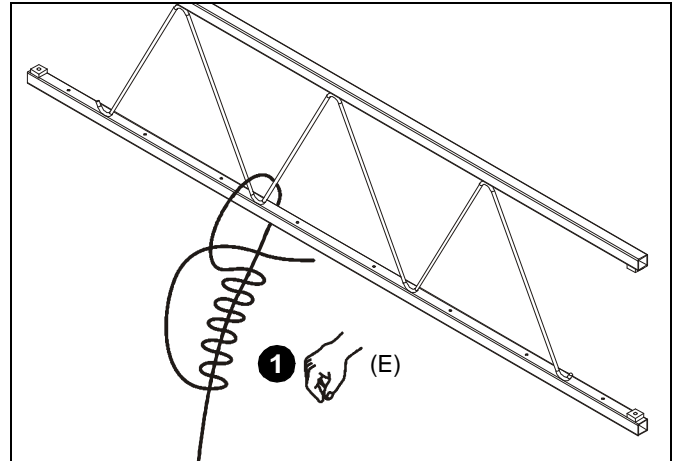

Figure 9
1. Route end of support wire (E) over truss at marked wire anchor support location. Twist wire tightly around itself at least 4 complete turns, and then thread loose end between truss and first turn (See Figure 9). Repeat for 3 remaining support locations